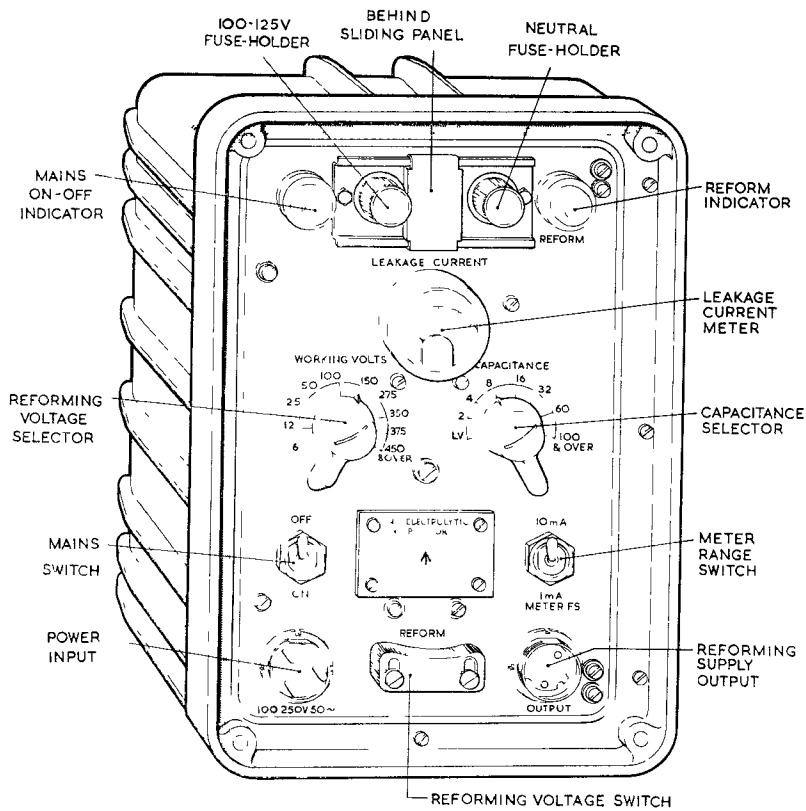

Fig. 1. Reformatting units, electrolytic capacitor No. 1 equipment
2. The instrument is housed in a sturdy case of cast aluminium (fig. 1). Seals are introduced between this case and the front panel, and also at the meter, control-spindle and all other openings in the panel, to prevent the ingress of dust and moisture. Two desiccator units are fitted in the bottom of the case to absorb any residual moisture from the case interior.